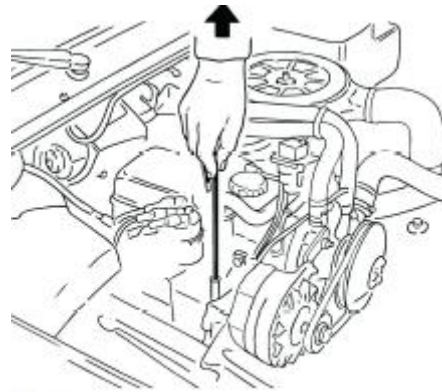

FIG. 1
- It is best to change the hot oil. The total suction capacity of the machine is 2/3 of its volume (approximately 53 litres). If the engine is still hot, replace the engine gauge with a suitable suction tube (largest diameter), and insert it as low as possible. (figure 1).